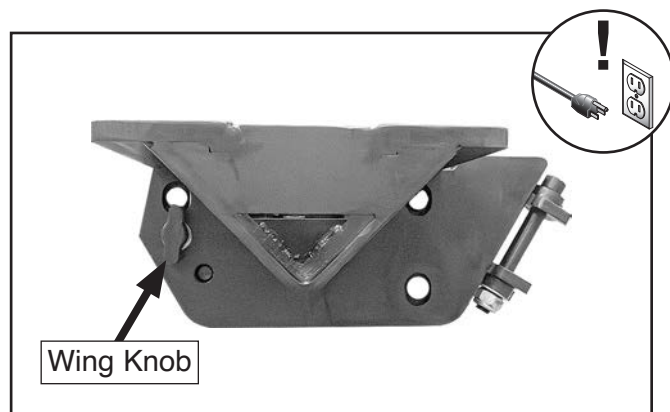

Figure 48. Location of swing-away bed wing knob.
2. Loosen swing-away bed wing knob to unlock and release swing-away bed, as shown in **Figure 48**.